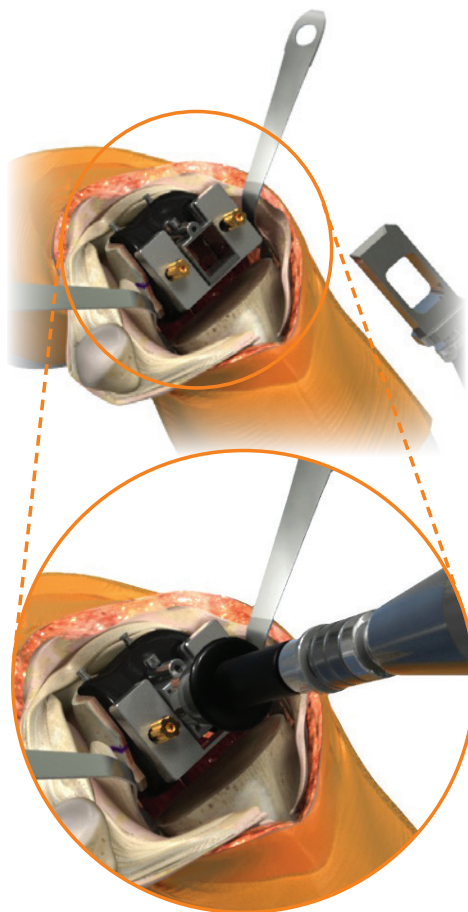

Figure 21a
5. Assemble the PS Housing Reamer by attaching the housing reamer dome and the PS reamer sleeve to the reamer shaft. Ream through the PS Housing Collet in both anterior and posterior positions until the depth stop of the Reamer contacts the PS Housing Collet (Figure 21a).